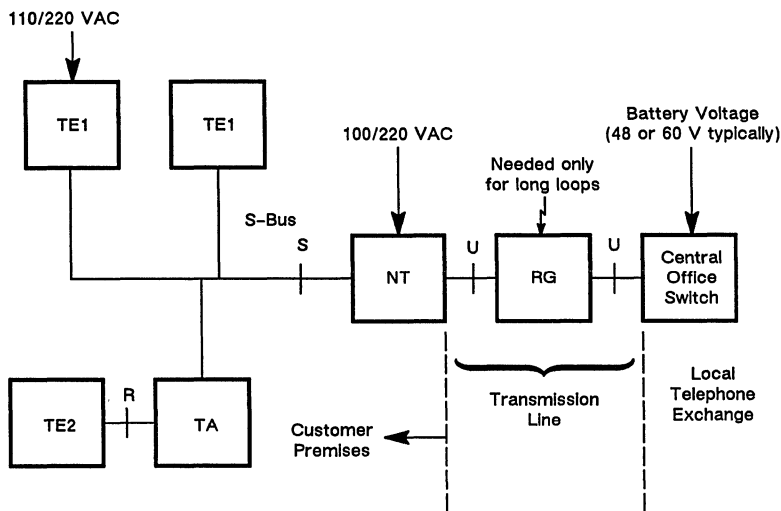

Figure 1. ISDN Basic Access Configuration
Figure 1 is a block diagram of the ISDN basic access configuration. The two-wire transmission line defined at the U-interface provides a 192k-bits-per-second (bps) digital data path which connects subscriber equipment to the local telephone exchange. Although ISDN permits many new services to be offered, the basic service of voice transmission remains a vital function. Therefore, the network power feeding from batteries in the local telephone exchange remains an essential part of modern telephone system planning. The network terminal (NT) connects the local loop, called the S-bus, to the U-interface at the customer's premises. ISDN-compatible terminals (TE1) communicate at a standard 64k-bps rate over the four-wire S-bus. Non-ISDN-compatible terminal equipment (TE2), such as analog phones, must connect to the S-bus via a terminal adapter (TA).